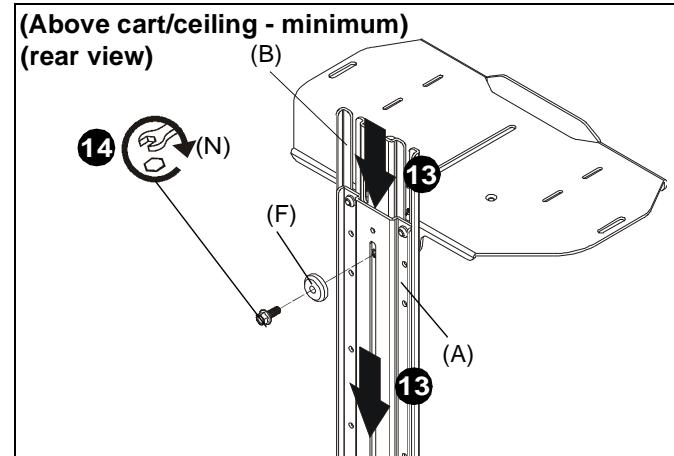

Figure 25
13. (For minimum extension) Slide upright bracket (A) behind main bracket (B). (See Figure 25)
14. (For minimum extension) Use 1/4-20 x 5/8" hex head flange bolt (N) and center washer (F) to secure upright bracket (A) to main bracket (B). (See Figure 25)